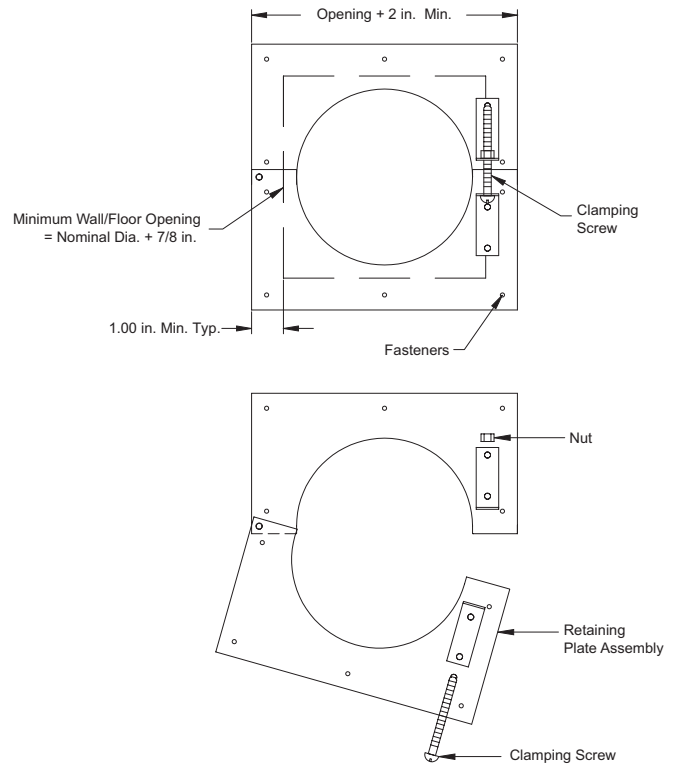

Figure 7: Retaining Plates
- The retaining plate(s) will open up for easy installation when the clamping screw is loosened. If necessary, remove the clamping screw and nut (see **Figure 7**).